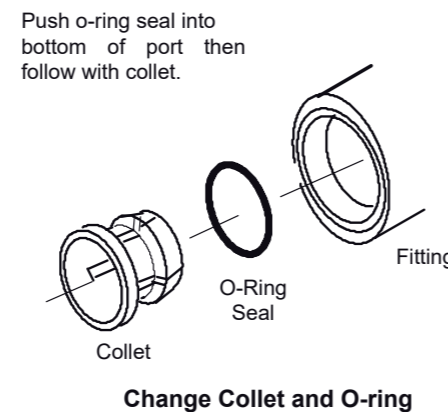

FIG. 26
1. Remove the collet and o-ring from the fitting with a small screwdriver. Do not scratch the internal walls of the collet port. See Figs. 26 & 27.
2. Clean collet port, lubricate with silicone-based lubricant, and insert the o-ring seal into the bottom of the port. See Figs. 26 & 27.
3. Push the collet inward until it locks in place. See Figs. 26 & 27.